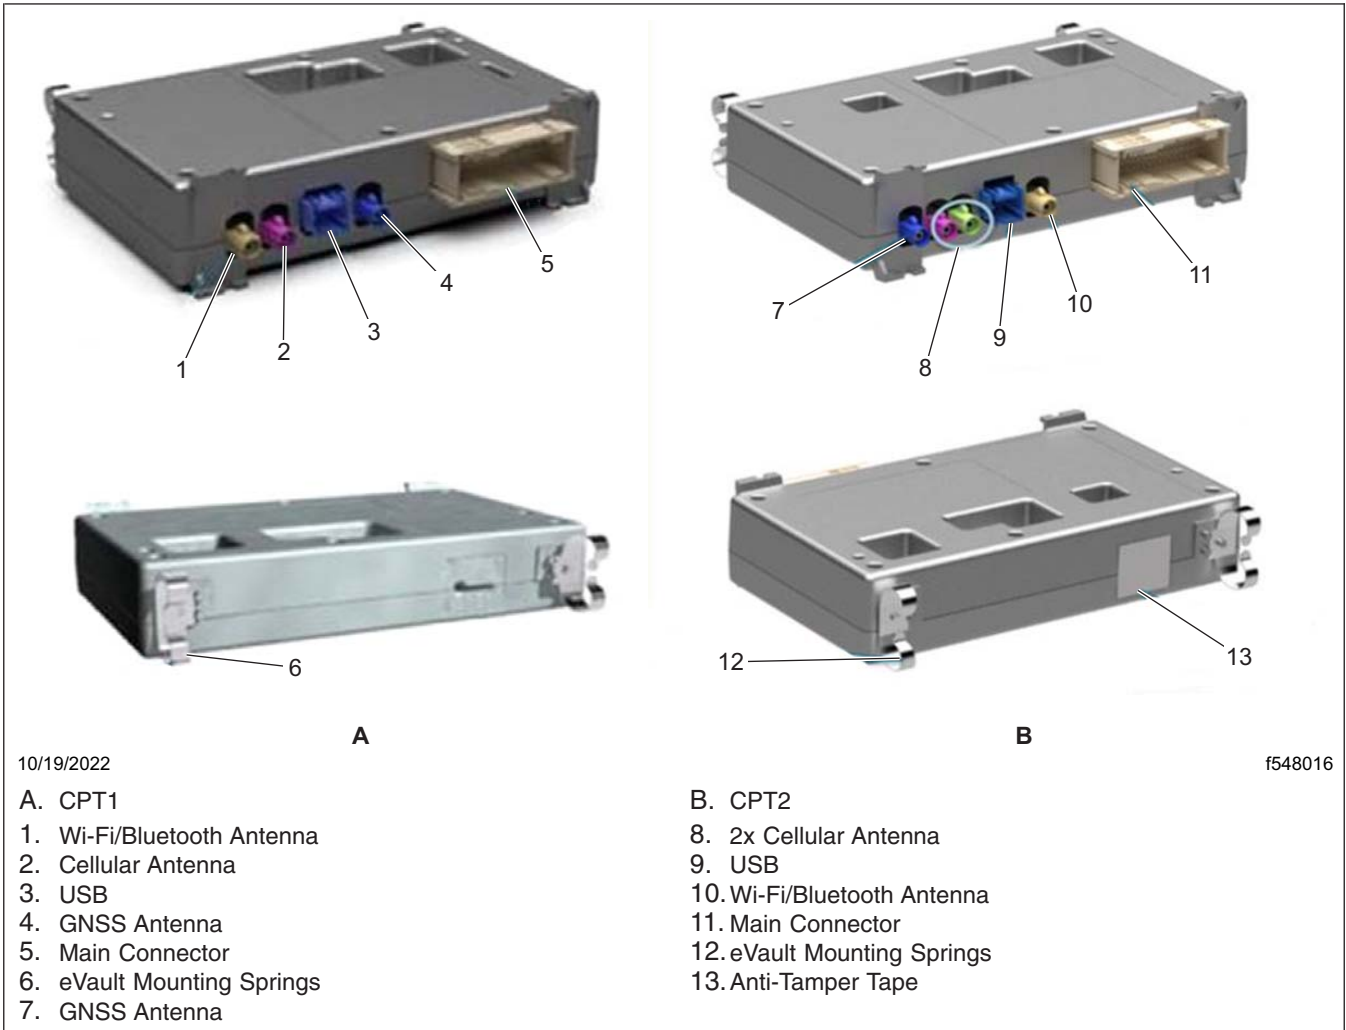

Fig. 41, CPT1 and CTP2 Connection Locations
7.2 After mounting antennas, as needed, and routing/securing cables, connect each of the antenna ends to the CTP2 shown in Fig. 41. Each antenna connector will match the color on the CTP2.